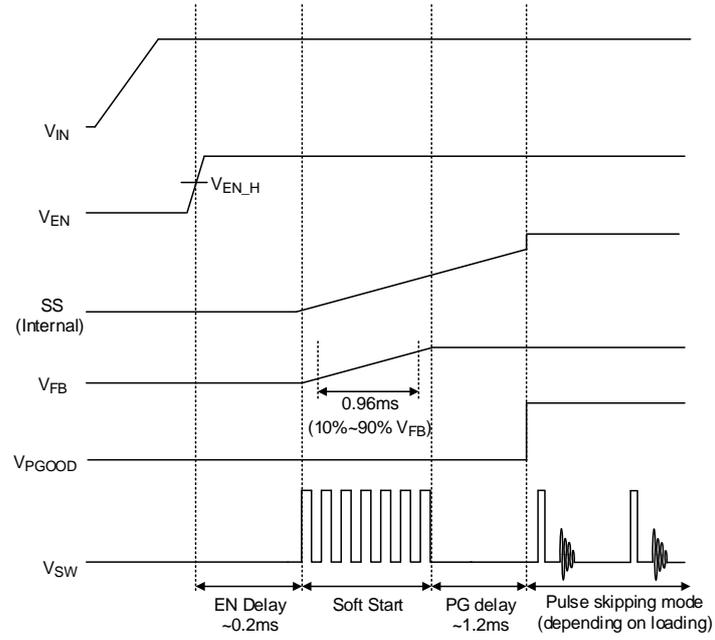

Figure 1. Power Up Sequence which is Following Internal Soft-Start
The enable input (EN) has a logic-low level of 0.74V. When V_{EN} is below this level the IC enters shutdown mode and supply current drops to less than 1μA. When V_{EN} exceeds its logic-high level of 0.92V the IC is fully operational. When V_{EN} exceeds its logic-high level, the pre-regulator turns on first. The power up sequence from EN logic high to PGOOD go high is shown as Figure 1.